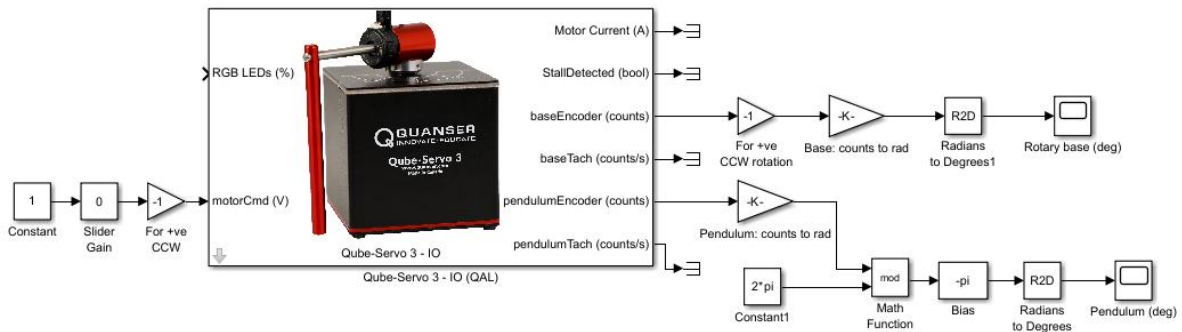

Figure 2: Simulink model that includes the modulus and bias blocks.
10. Add a **Modulus** and **Bias** block to the Simulink model so that the pendulum angle  $\alpha$  is 0 rad in the upright position and is bounded by  $\pm\pi$  rad. The model should look similar to Figure 2 below: